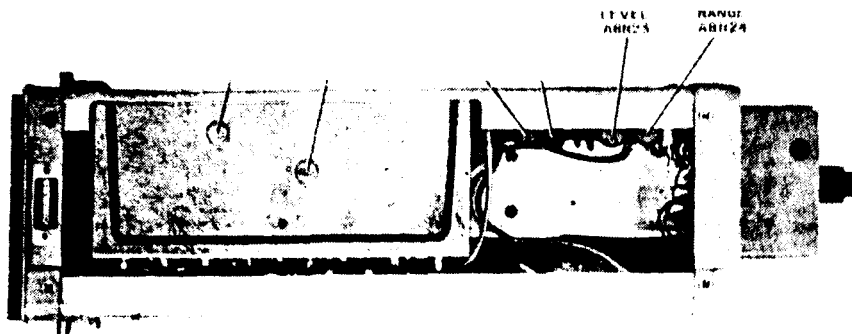

Figure 6-3. Plug-In Unit PL-1241A/USM-308(V), top view.
(2) Adjust UUT RANGE adjustment, A8-R24 (fig. 6-3) for voltmeter indication of 0.223 vat.
(3) Turn UUT VERNIER control to CAL
(4) Adjust UUT LEVEL adjustment, A8-R23 (fig. 6-3) for voltmeter indication of 0.707 vat.